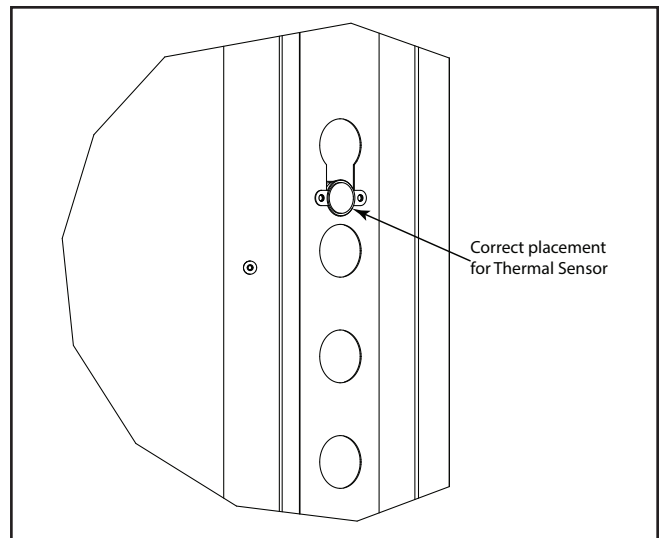

Figure 20
4. Install wires from thermal sensor into hole on right side. See Figure 20.